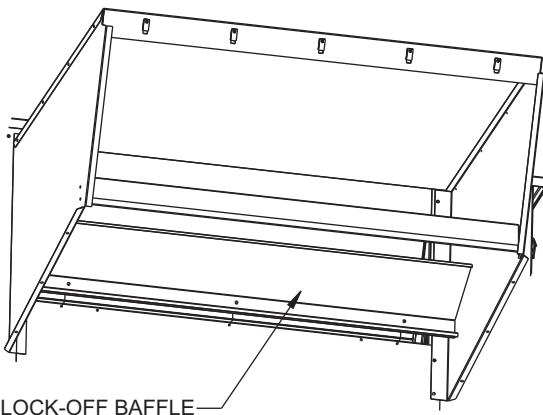

Fig. 22 — Mounting Block-Off Baffle to the Unit
9. Locate and mount block-off baffle using 3 screws. See Fig. 22.